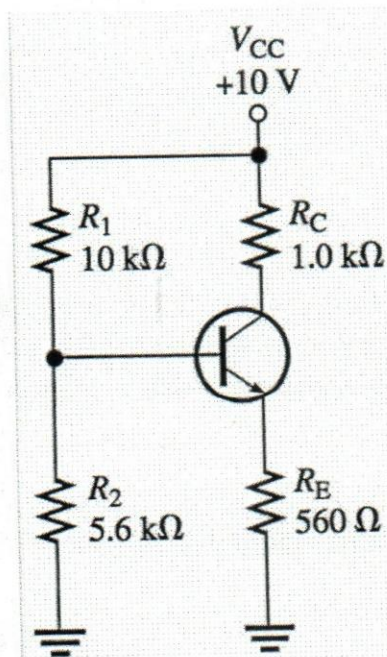

Figure 5.2
- (c) Determine V_{CE} and I_C in the voltage-divider biased transistor circuit of Figure 5.2 if $\beta_{DC} = 100$